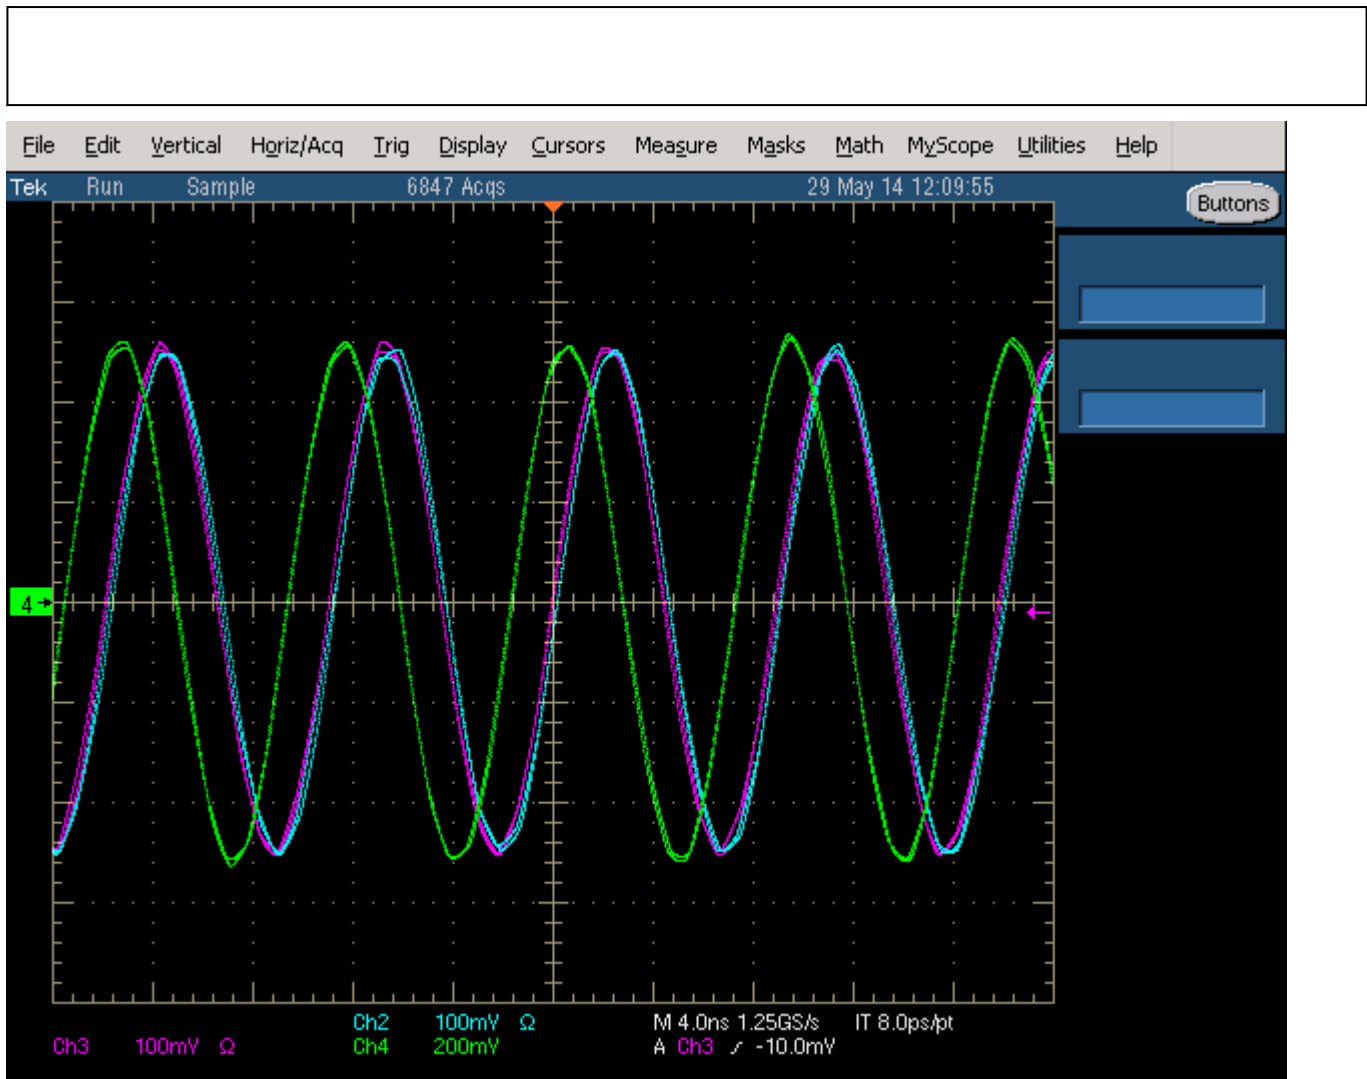

Figure 7. DAC Outputs Scope Display
7. Click Download ( ) and Play ( ). The spectrum in figure 7 will appear on all 4 DAC outputs (J17, J4, J5, and J14), Serial Line Rate will be 7.5Gps.